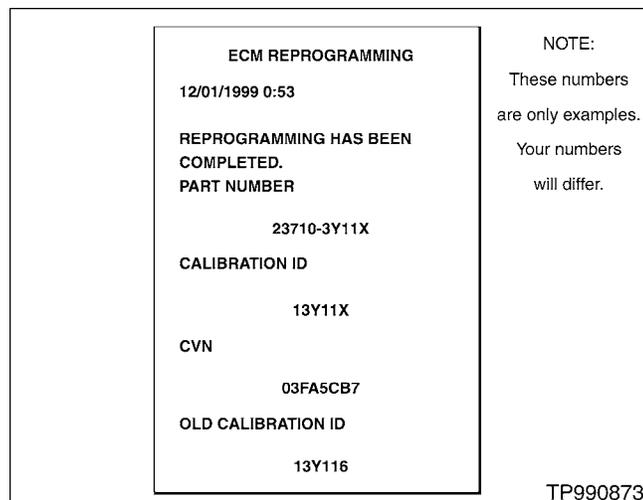

Figure C12
20. Once ECM Reprogramming is done, CONSULT-II will print out a report (see Figure C12). Attach this to the repair order for future reference.